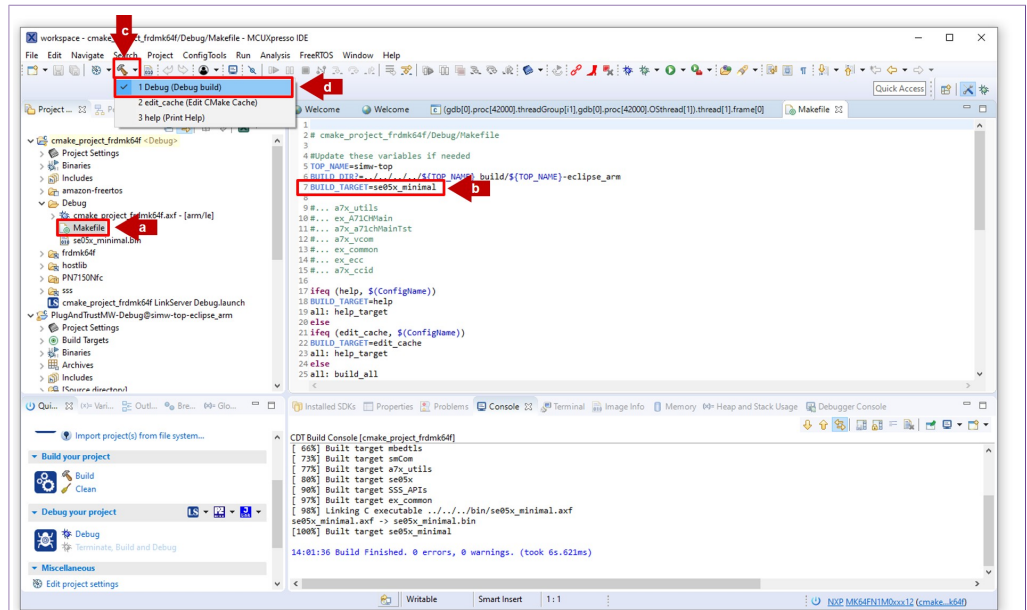

Figure 39. Debug EdgeLock SE050 Plug & Trust middleware se05x_minimal project example
3. Select the `se05x_minimal` as the project to be executed. For that, follow the steps shown in Figure 39: